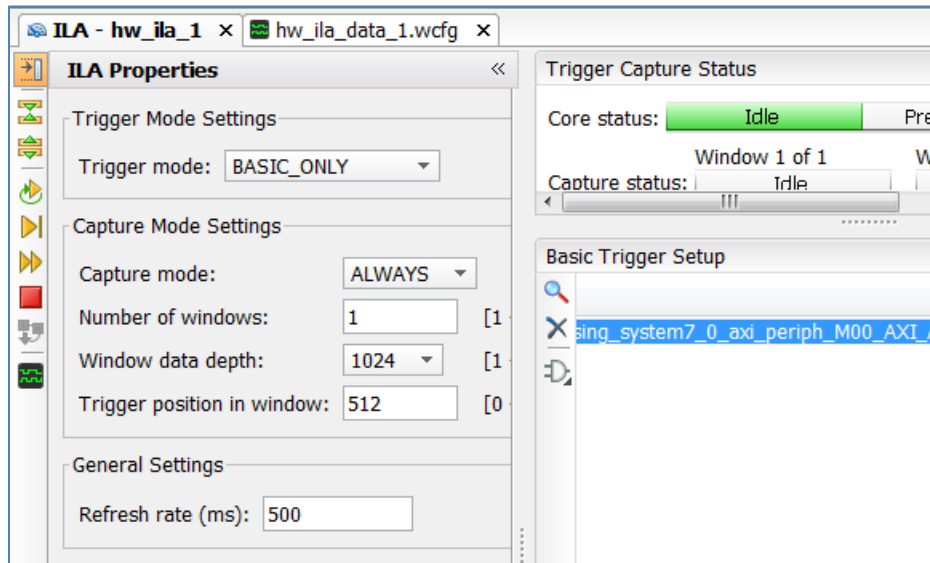

Figure 48: Change Debug Probe Settings
- Change the trigger position to the middle of the 1024 sample window by setting the **Trigger Position** for the `hw_ila_1` core in the ILA Properties window to **512** and then pressing **Enter** (FIGURE 48).